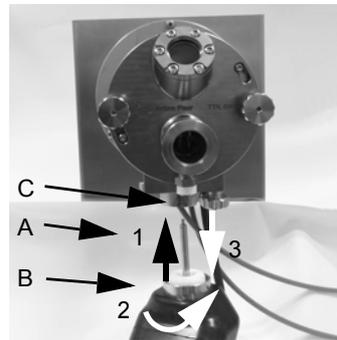
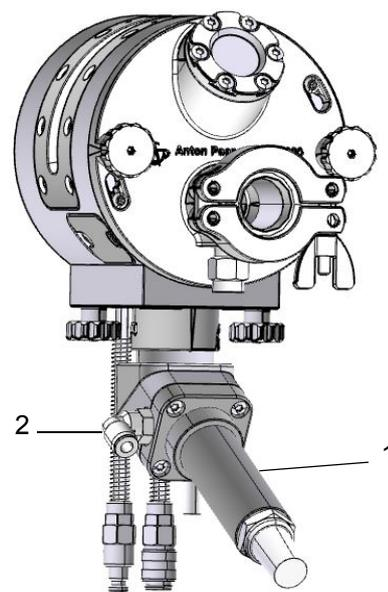

Fig. 30: Low Temperature Equipment
Fig. 31: Air-cooling equipment
4. In order to use Air Cooling or Liquid Nitrogen switch the cooling mode switching valve to the corresponding position and install the air-cooling equipment (Fig. 31) or the Low Temperature Equipment (Fig. 30) to the chamber (5 on Fig. 5).